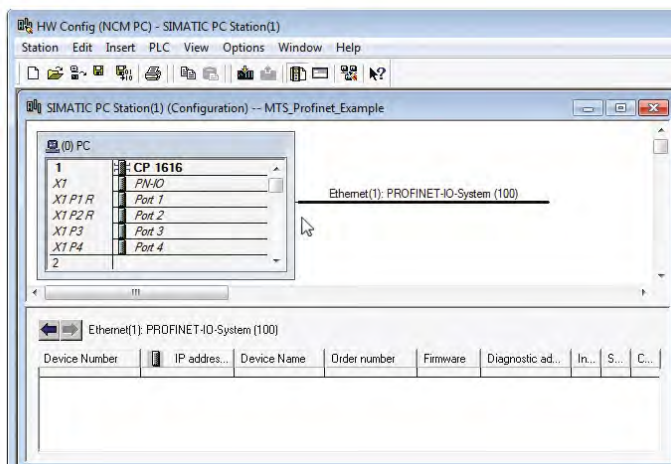

Fig. 60: Configuration of network without sensors (source: Siemens)
7. A network without sensors has been configured (Fig. 60).